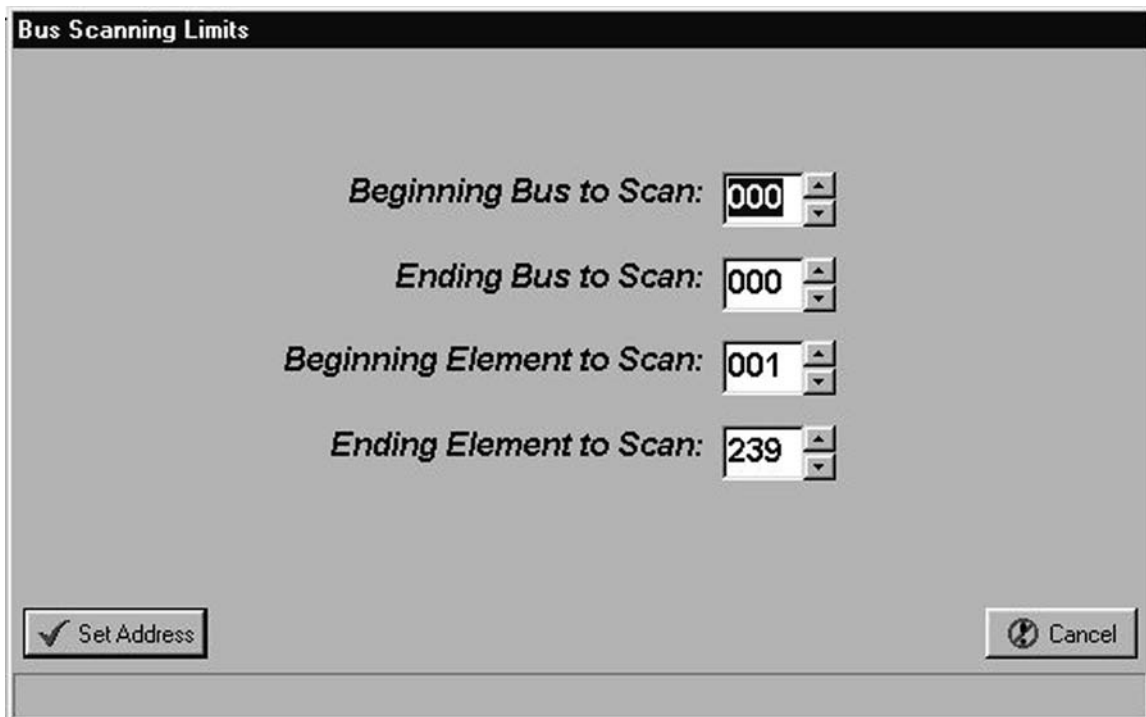

Fig. 7 — Element Setup Utility Bus Scanning Limits
**SET SCANNING RANGE** — The scanning range must be set before a bus scan can be performed. In order to specify the scanning limits, select the Set High and Low Limits for Bus Scan menu item. Configure the beginning and ending bus and element number. See Fig. 7. After valid entries have been made, click on the Set Address button. After entering an address range, the user can initiate a simple or detailed scan. The Beginning/Ending Bus to Scan has a range of 0 through 239. The Beginning/Ending Element to Scan has a range of 0 through 239. Pressing the ESC button or the SPACE BAR during a scan will stop the scan process.